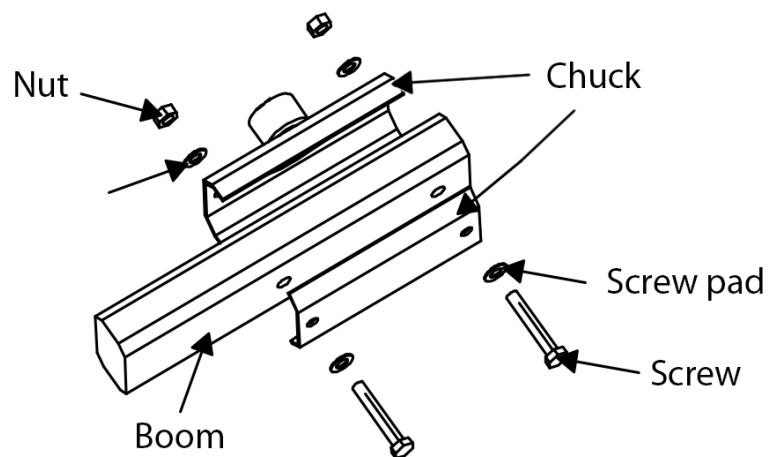

Figure 3-2 Installing the Boom to the cabinet
- Installing the boom to the chassis, as shown in Figure 3-2.